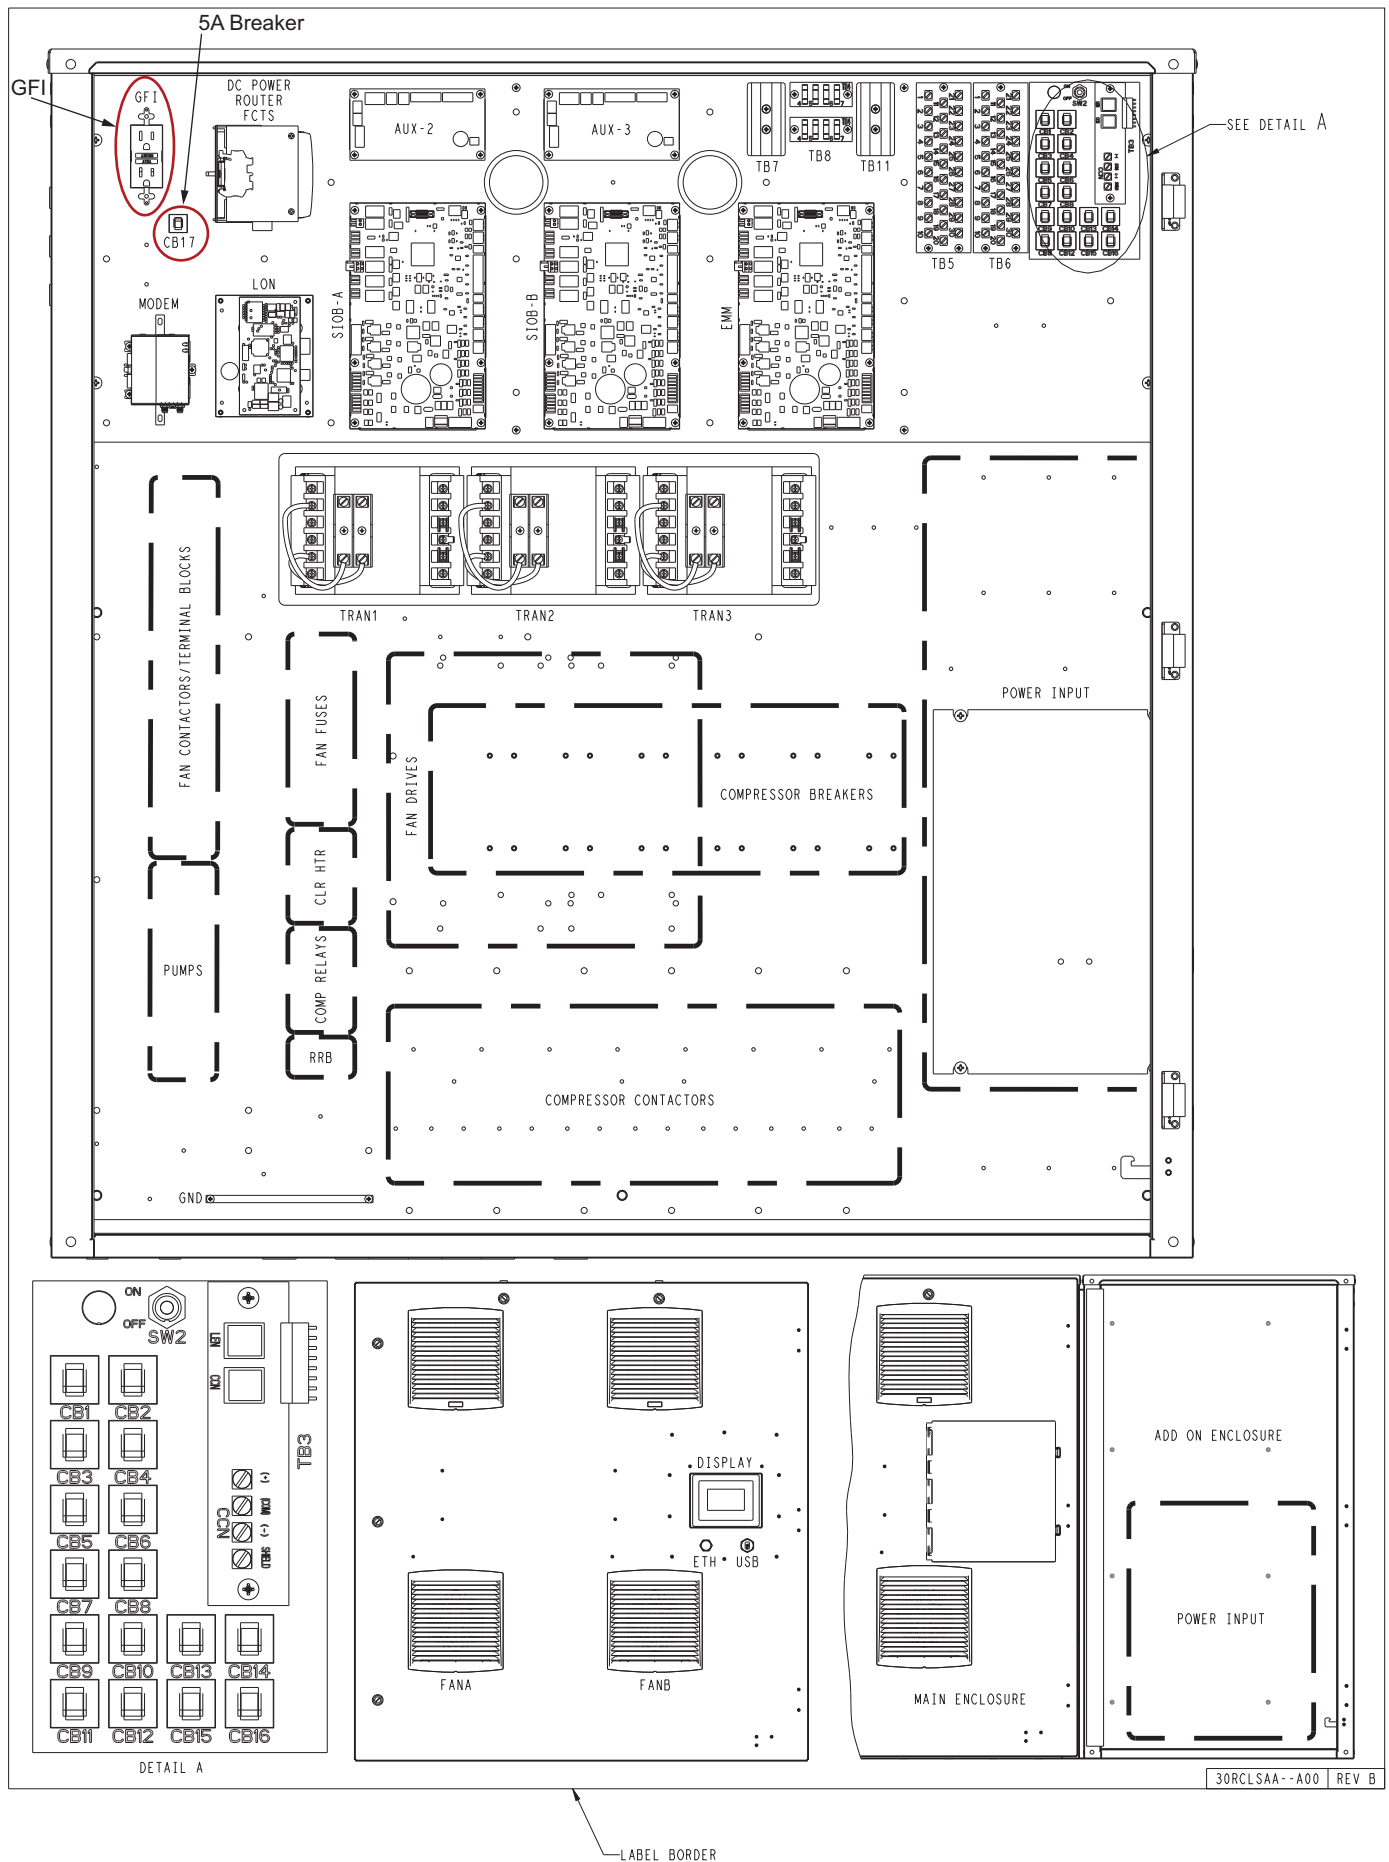

Fig. 1 — 30RC065-152 Small Main Control Box
4. Install the GFI-CO in the location shown in Fig. 1 or 2 by using the screws provided to screw the GFI-CO in place.
5. Install the 5A mini circuit breaker (P/N HH83ZB010) in the location shown in Fig. 1 or 2 by inserting into the proper hole and snapping it into place.